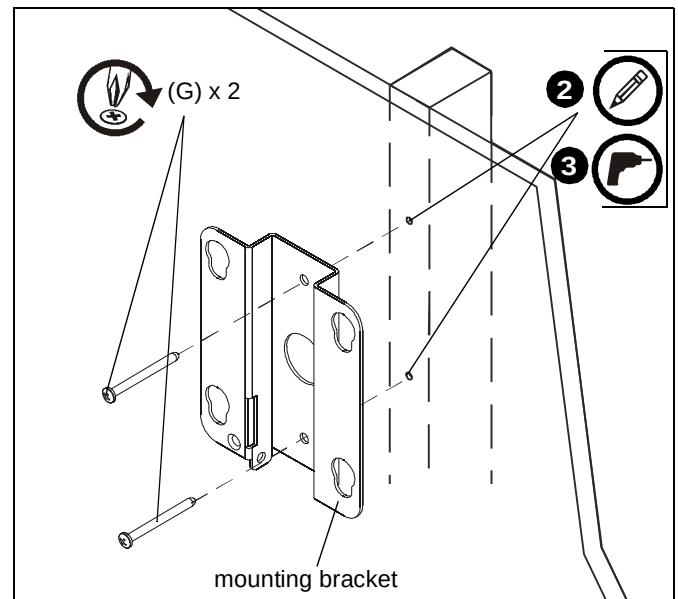

Figure 7
2. Use the removed mounting bracket as a template and mark through top and bottom holes of wall bracket. (See Figure 7)
3. Drill two 7/64" diameter pilot holes at marked spots into wood stud. (See Figure 7)
4. Install two #12 x 2-1/2" Phillips wood screws (G) through bracket and drywall into wood stud. (See Figure 7)
5. Ensure bracket is vertical, then tighten screws (G).